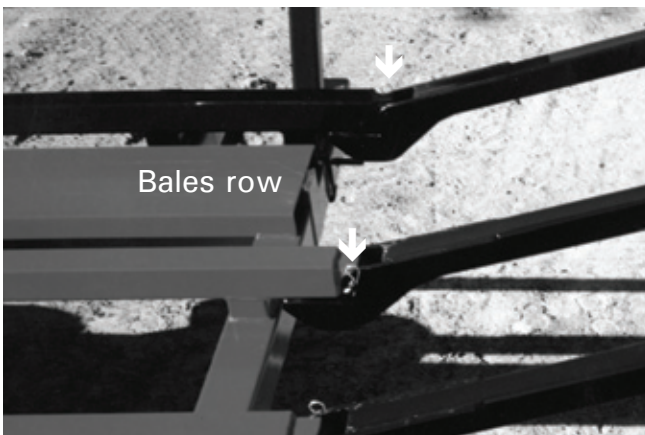

Figure 11
- 10) Install hinged bale slides. Insert the bolts so that the nuts are toward the outer side of the bale row to prevent the bale twine from snagging on the nuts (Figure 11).